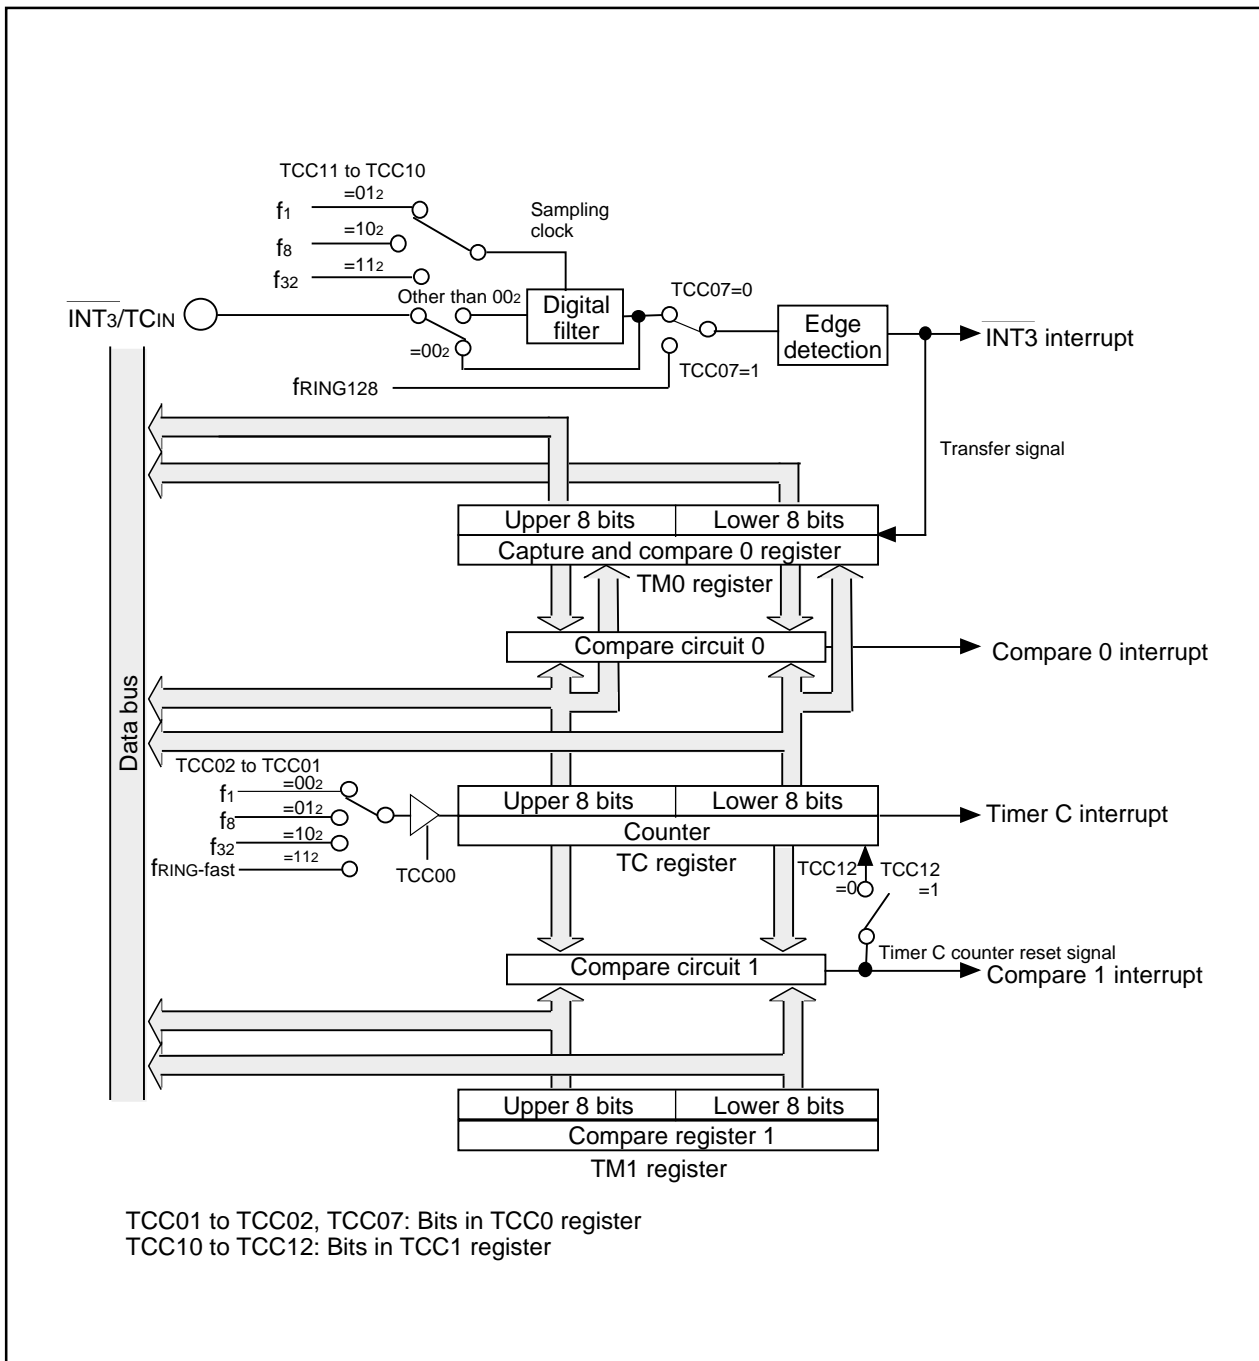
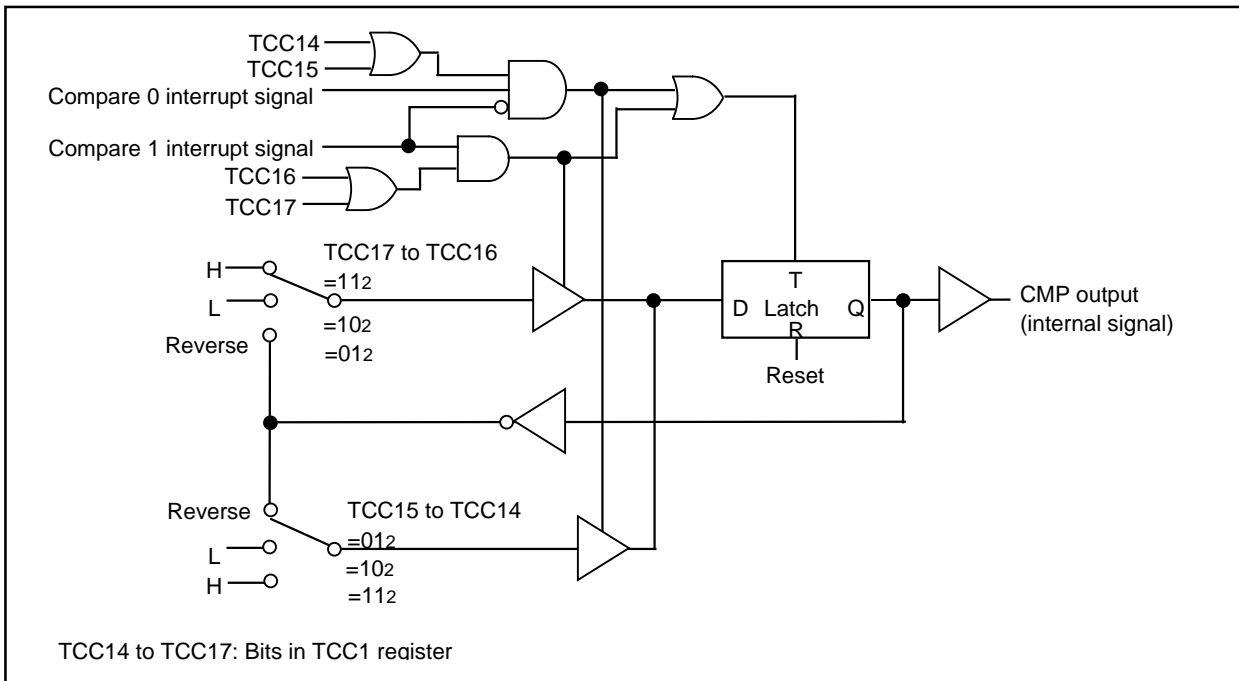
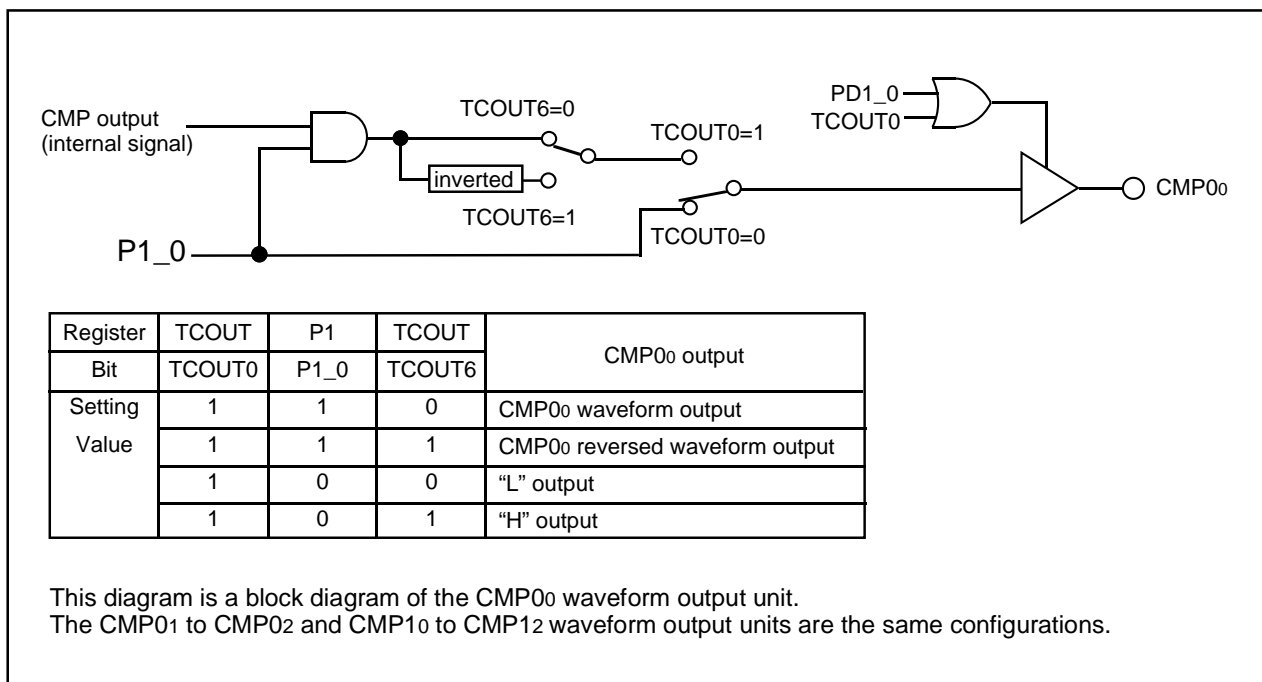

Figure 12.28 Timer C Block Diagram
Figure 12.29 CMP Waveform Generation Unit
Figure 12.30 CMP Waveform Output Unit
Timer C is a 16-bit timer. Figure 12.28 shows a block diagram of Timer C. Figure 12.29 shows a block diagram of CMP waveform generation unit. Figure 12.30 shows a block diagram of CMP waveform output unit.
2. When the corresponding port data is "1", the waveform is output depending on the setting of the registers TCC1 and TCOUT. When the corresponding port data is "0", the fixed level is output (refer to Figure 12.30 CMP Waveform Output Unit).